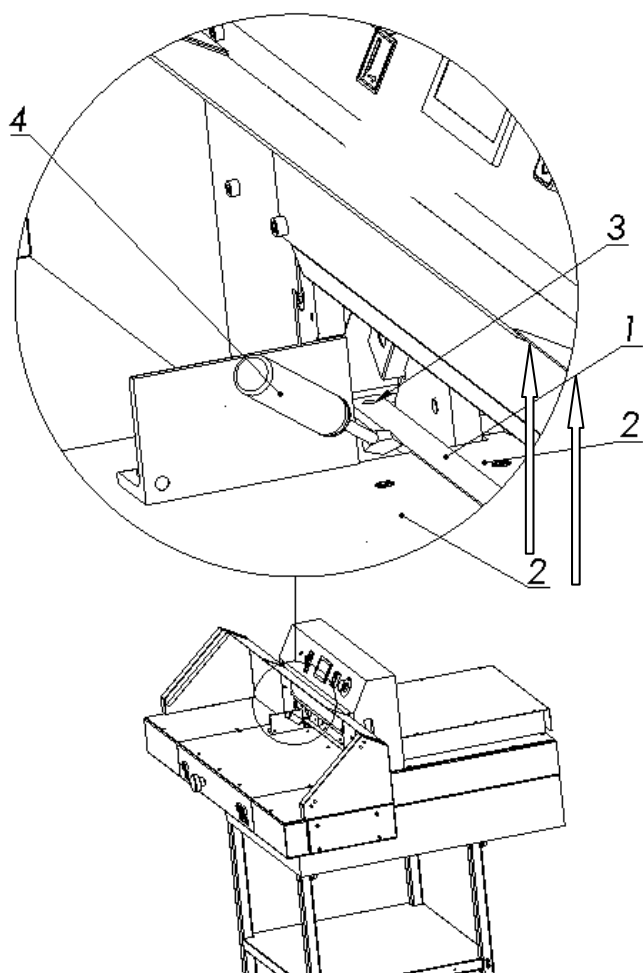

Figure 35. Removing the cutting stick.
8.2.1 Lift the cutting stick with a screwdriver (fig. 35)
8.2.3. Insert the replaced stick into the channel between the tables and place it on the dowel (Fig. 35)